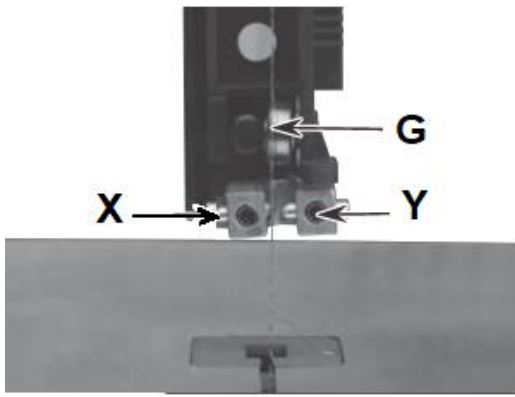

Fig 16
- Loosen screws (Y, Fig 16) and adjust guide pins (X) to sides of the blade.